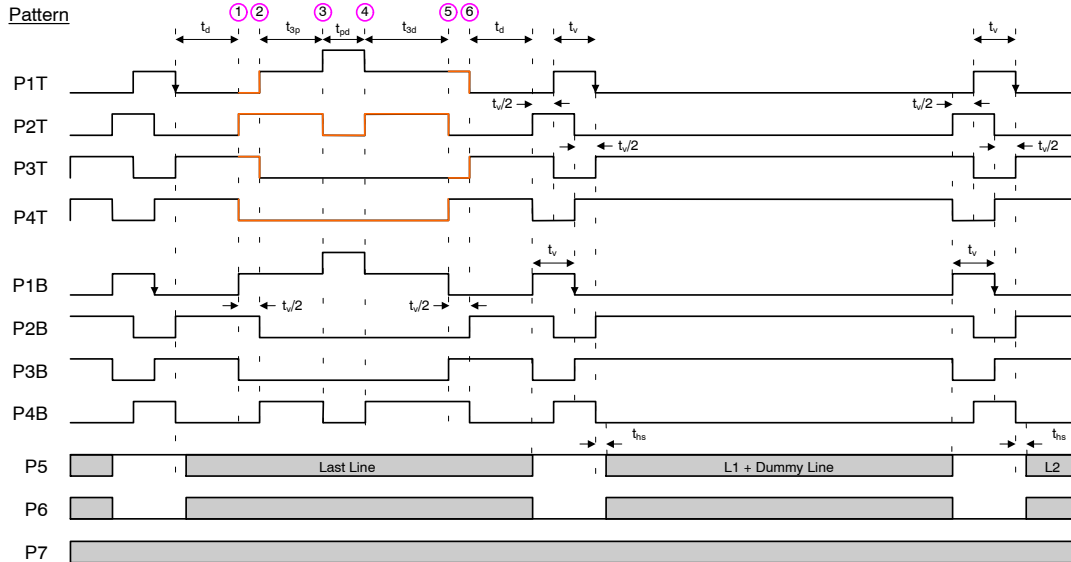

Figure 21. Photodiode Transfer Timing
3. Refer to timing diagrams as shown in Figures 21, 22, 23, 24 and 25.
The timing sequence for the clocked device pins may be represented as one of seven patterns (P1–P7) as shown in the table below. The patterns are defined in Figure 21 and